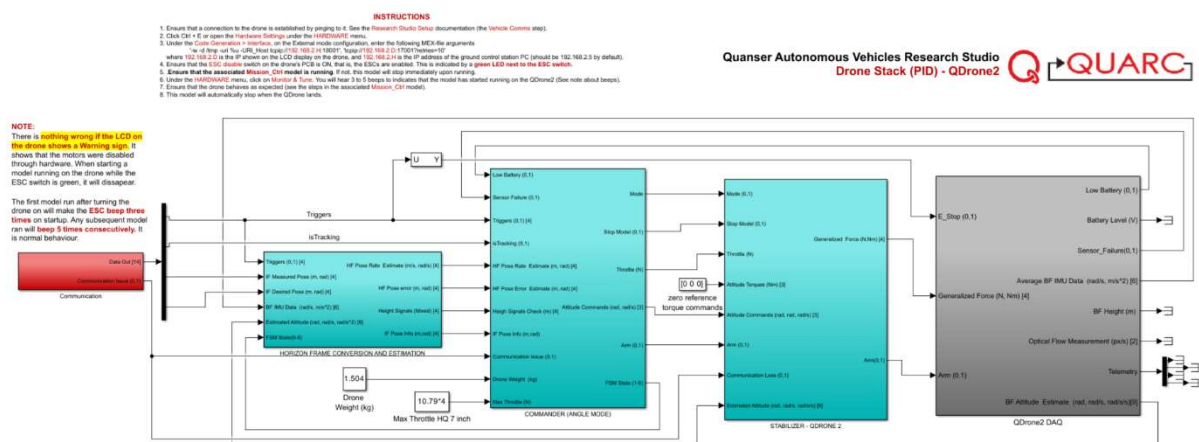

Figure 2. Drone Stack Model
- From the same folder containing this file, open the folder QDrone 2 Hover Test, and open QD2_DroneStack_PID_2021a.slx (Figure 2).